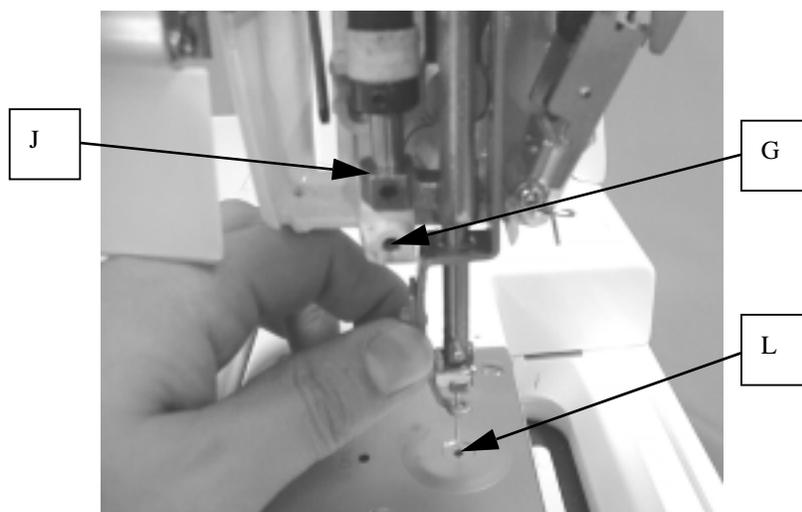

FIGURE 3-6
7. Insert the needle into throat plate needle hole(L) while lifting the presser foot as shown in Fig.3-6 ,adjust the needle bar supporter(J) horizontally so that the horizontal gap becomes more than 0.6mm, tighten socket screw(G), and then, securely tighten socket screw(F).